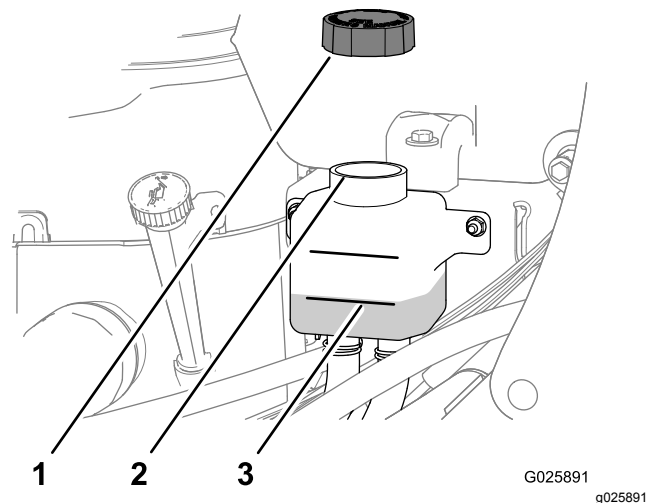

Figure 58
- Remove the cap from the expansion tank and check the hydraulic-fluid level in the tank (Figure 58).
4. If necessary, add the specified transmission fluid until the fluid level is at the Full Cold line of the expansion tank (Figure 58).